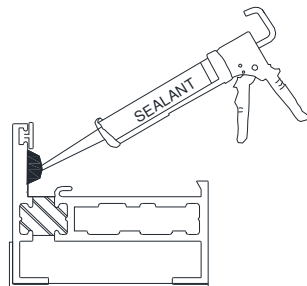

Figure 20:
- Install glass to rest on the inner flange of panel then install glass stops (Figure 20).